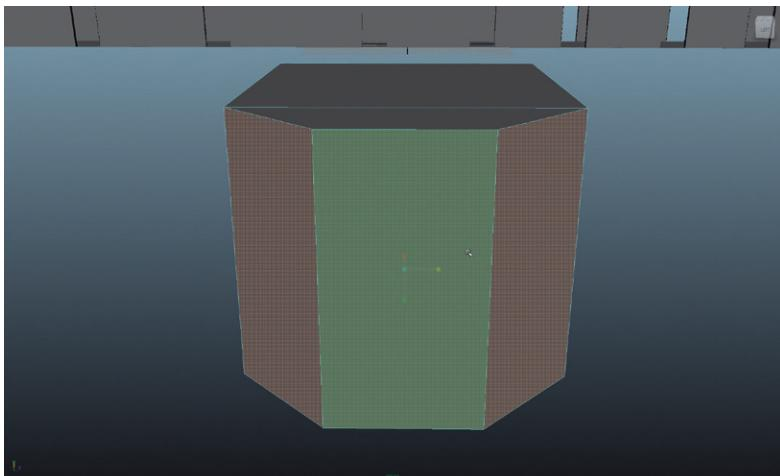

FIG 3.25 Selecting the walls that will become windows.
Step 39: Create windows. Do this by swinging around to the other side (the three-sided wall) and select the faces shown in Fig. 3.25. Remember to this you need to swap to Faces Mode.